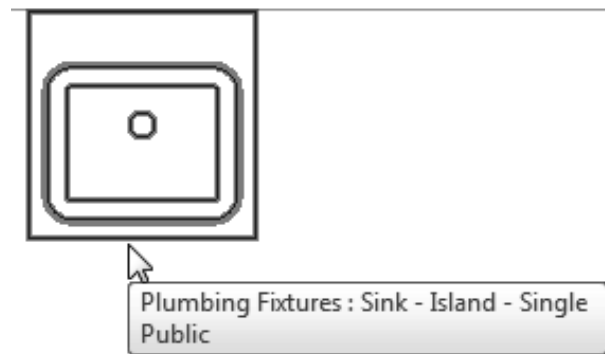

Figure 2–92
2. Which of the following commands imports a component (such as the sink shown in Figure 2–92) that is not available in your project?